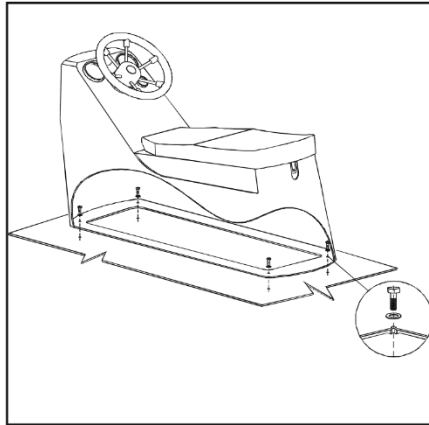

Fig. 9. Installation of steering console CS-01W/CS-03.
- Fix steering console to the deck by means of bolts M8*25 and toothed lock washer (fig. 9).